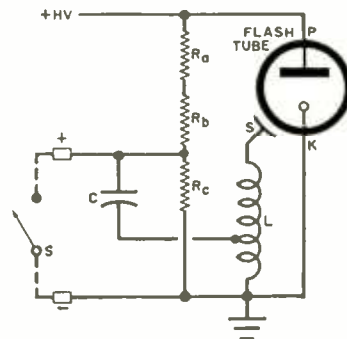

Fig. 1. Shutter discharges capacitor through coil to fire typical strobe.
**Typical Strobe Operation.** Figure 1 shows the firing arrangement used in most electronic flash units. High volt-
**Theory of Operation.** A computer-type logic diagram for the game is shown in Fig. 1. Like a double-throw switch, the flip-flop circuit places a signal first on one side, then on the other. Looking at the switch or the flip-flop circuit at any given instant, you will find that when there is an *on* condition on one side there is an *off* condition on the other, and vice versa. Actually, any binary type of indication can be programmed, such as 1 and 0; on and off, plus and minus, hot and cold, black and white, heads and tails, etc.